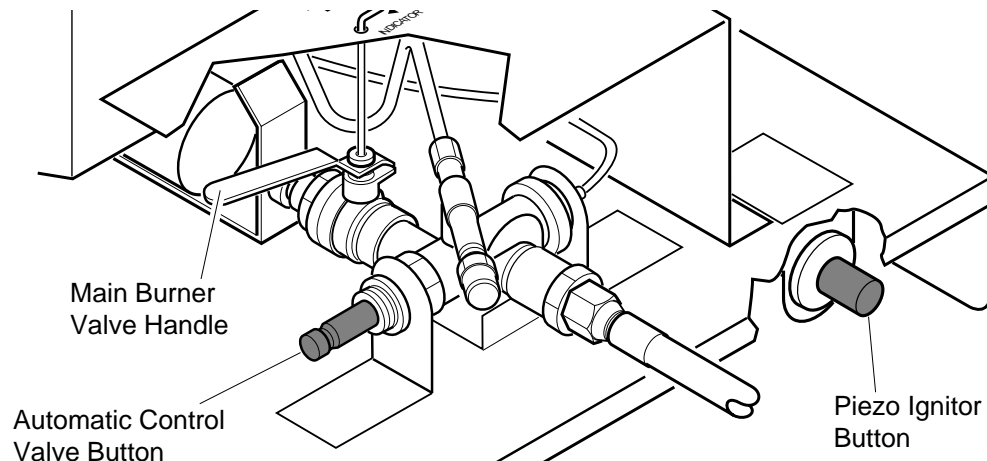

Figure 4 - Main Burner Valve Handle, Automatic Control Valve Button, and Piezo Ignitor Button Locations
4. Push in and hold automatic control valve button (see Figure 4). Push piezo ignitor button (see Figure 4). You may need to push piezo ignitor button 3-8 times until the pilot lights. When pilot lights, keep automatic control valve button pushed in. Release after 30 seconds.